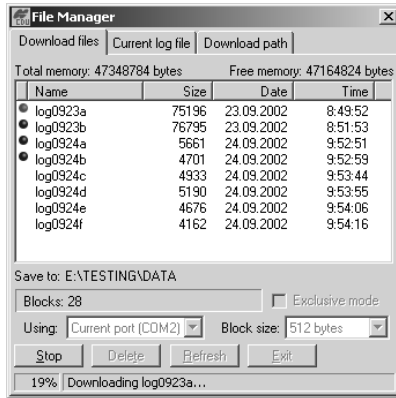

Figure 4-5. Download Files – Status Indicators
6. Click the **Download** button. During the download, status indicators display next to each file (Figure 4-5).